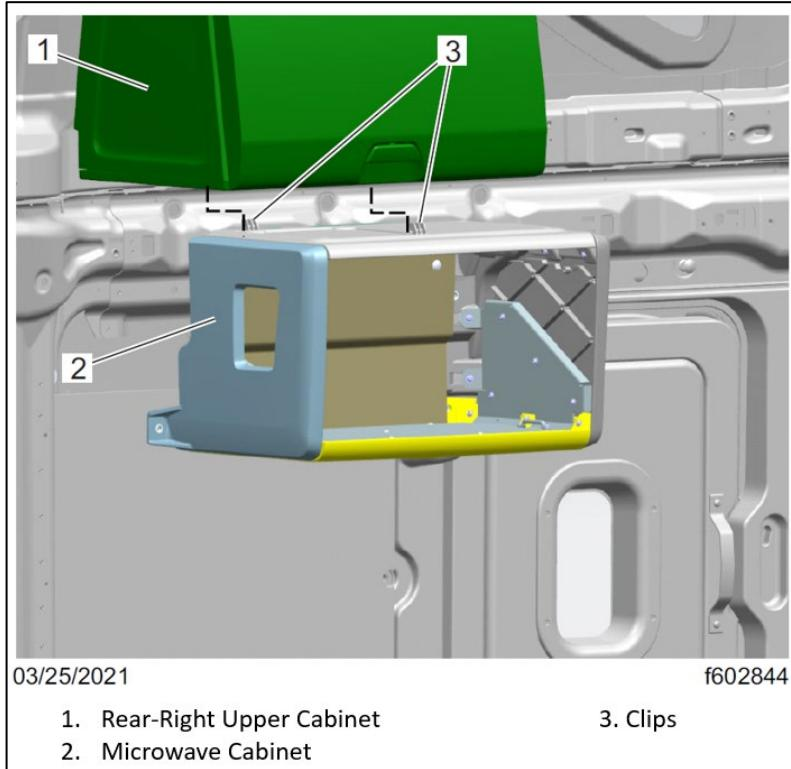

Fig. 40, Engage the Microwave Cabinet Clips
17.1. Attach the microwave cabinet clips to the rear-right upper cabinet. See **Fig. 40**.